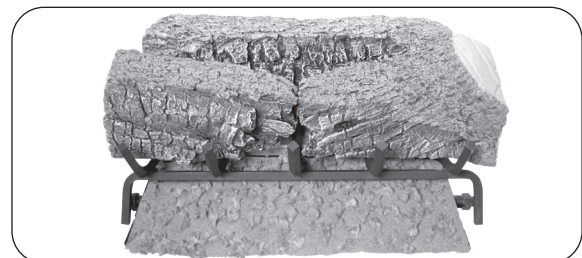
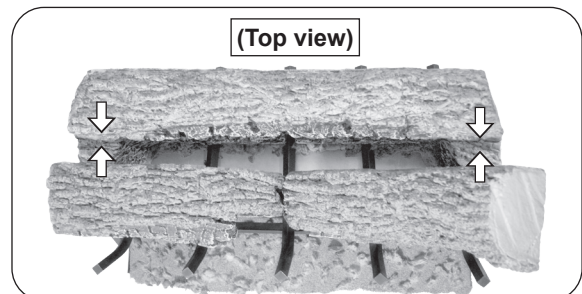

Fig. 2-3 Place front log
Fig. 2-4 Ensure logs are touching
8. Place the front log(s) (sold separately) onto the grate and shift it back so it is centered and touching the rear log (see Fig. 2-3 and Fig. 2-4).